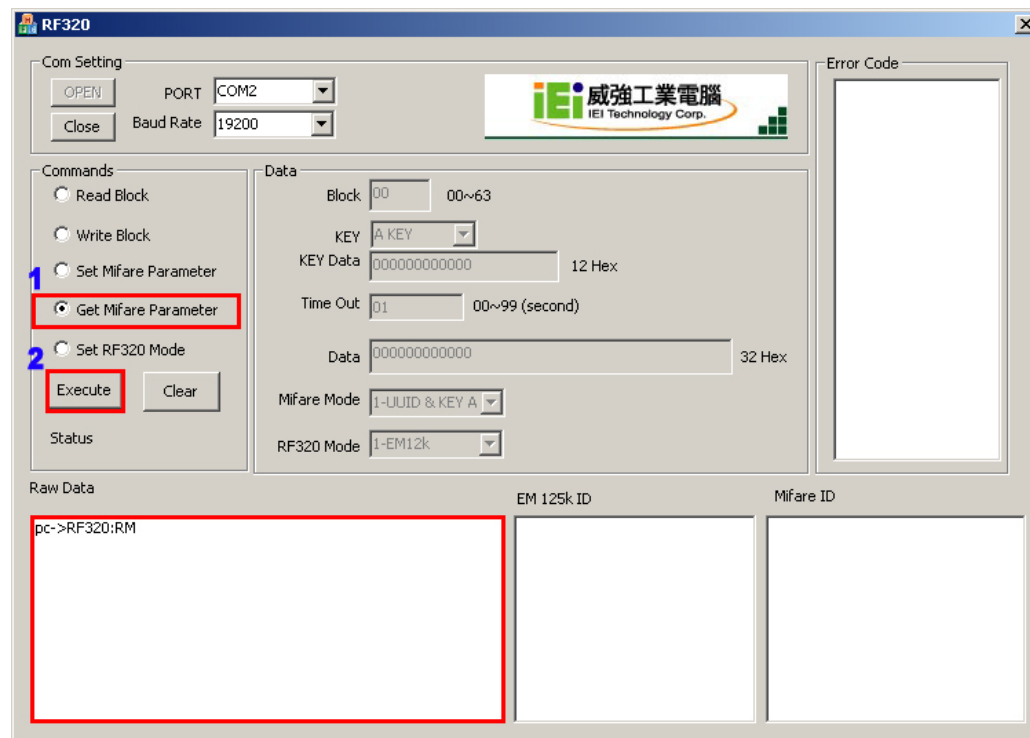

Figure 5-9: Get Mifare Parameter
Step 1: Select **Get Mifare Parameter** in the command area (**Figure 5-9**).
Step 2: Click the **Execute** button to execute the command through the selected serial port (**Figure 5-9**). The raw data of this command shows in the Raw Data area in the format listed in **Table 5-8** and **Table 5-9**.